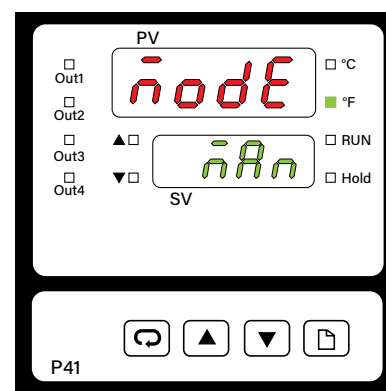

Figure 22
2. Press the  PAGE key until the top display says MODE (*mode*). Use the UP or DOWN arrows to select "man". (See **Figure 22**).